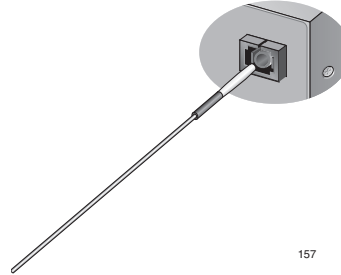

Figure 33. Cleaning a Recessed Ferrule
1. Insert the swab into the adapter as shown in Figure 33. Rub the ferrule tip with the swab.